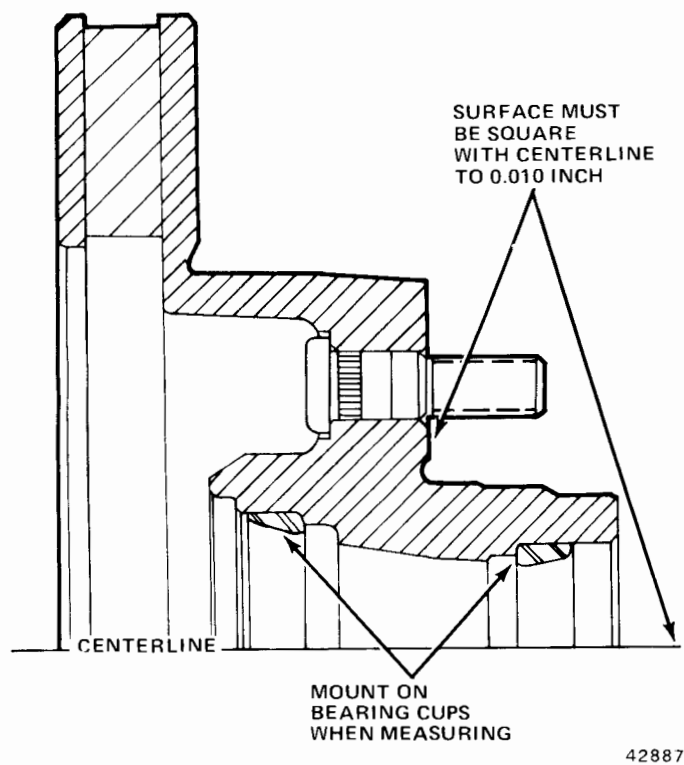

Fig. 9-41 Checking Hub-to-Bore Runout
(4) Check Hub-to-Bore Runout: Wheel mounting surface of hub must be square with centerline of bearing cup bore to within 0.010 inch (fig. 9-41).